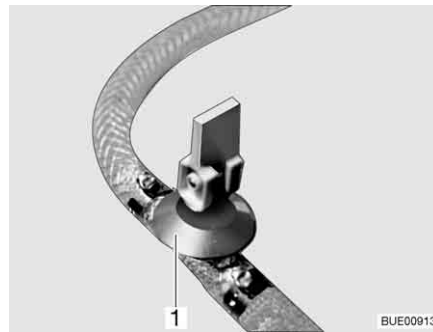

Fig. 205 Drain cock
- Close the drain cock(s). Position the rocking lever (Fig. 205,1) horizontally.
- Open drain cock(s) (Fig. 205). To do so, set the rocking lever (Fig. 205,1) in a vertical position. The boiler is drained to the outside.